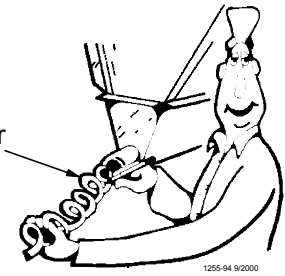

Figure 36. Marking the Relaxed Auger
7. Pull the auger at the boot end until it begins stretching then let it relax. In the relaxed position, mark the auger at the end of the boot. **See Figure 36.**